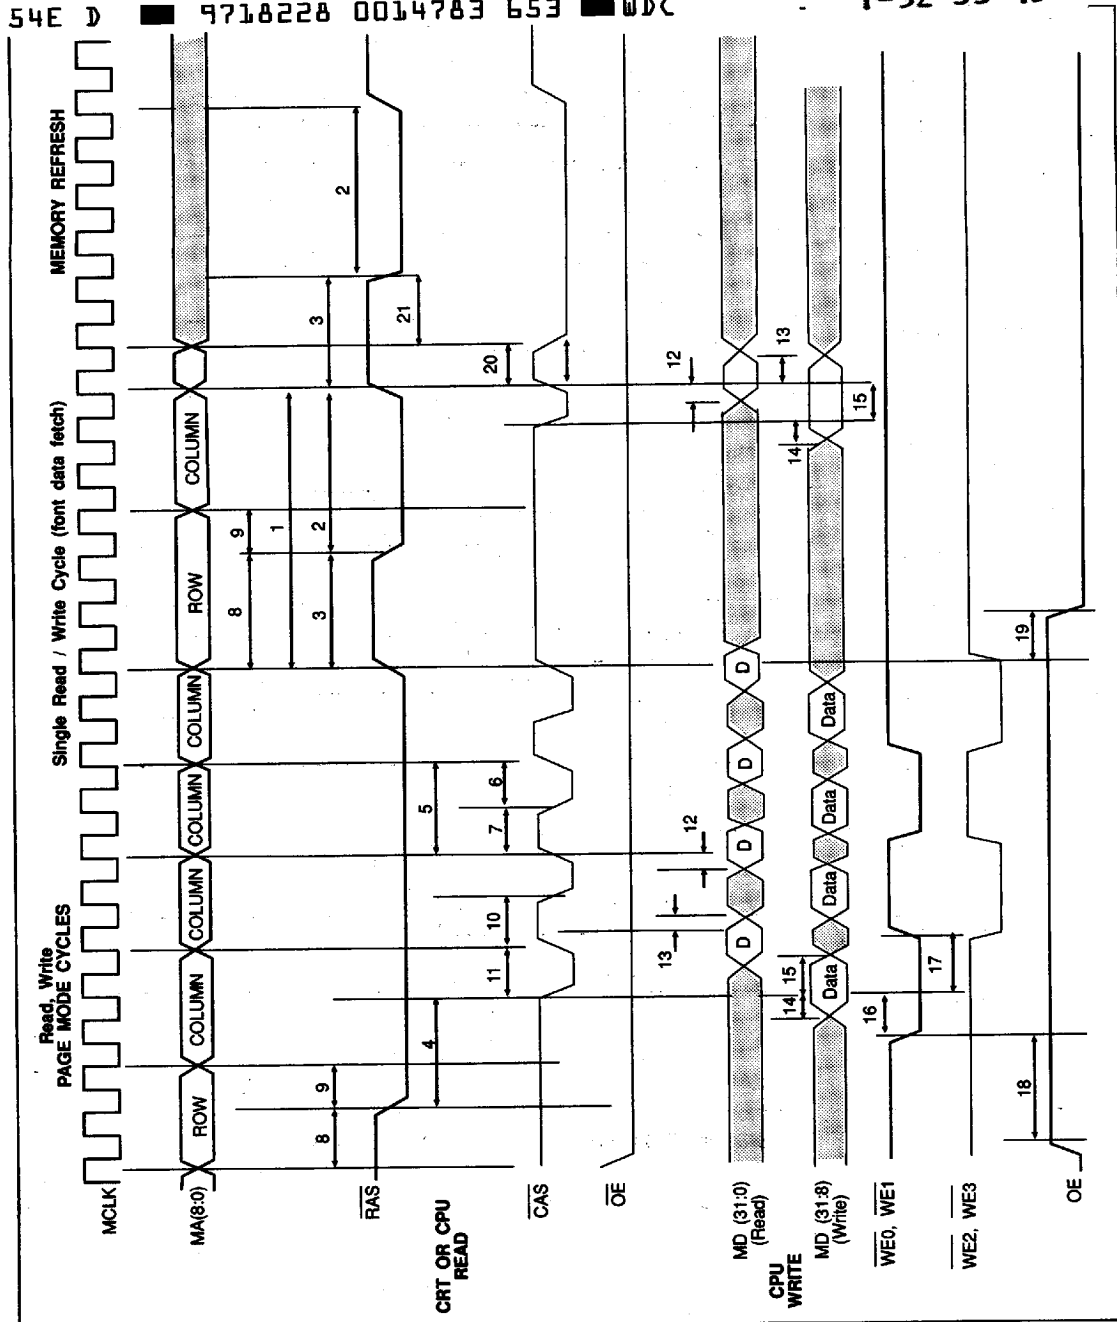

FIGURE 9. DRAM TIMING
**DRAM Timing Adjustment:** The RAS, CAS timing can be adjusted by register PR33 (3C5H, Index 3H) bits 4 through 0. Only the following timing may be affected: (See Figures 9 and 10).